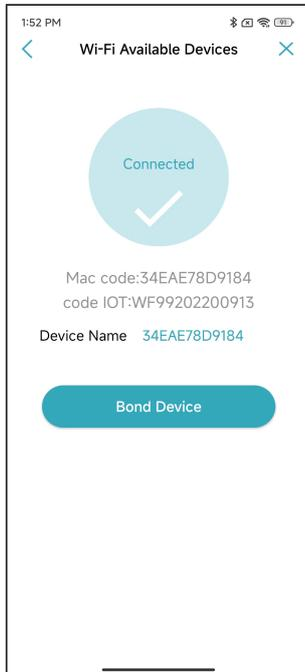

Fig.12 Bond Device interface
4. Click "Bond device", device bond is done (Fig.12);